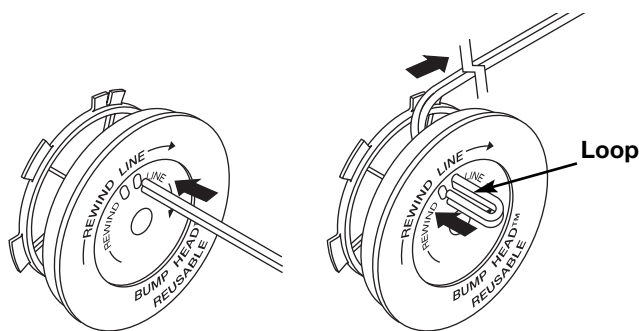

Fig. 19
8. Take approximately 8 feet (2.5 m) of new trimming line. Insert one end of the line through one of the two holes in the inner reel (Fig. 19). Pull the line through the inner reel until only about 4 inches is left out.
9. Insert the end of the line into the open hole in the inner reel and pull the line tight to make the loop as small as possible (Fig. 19).